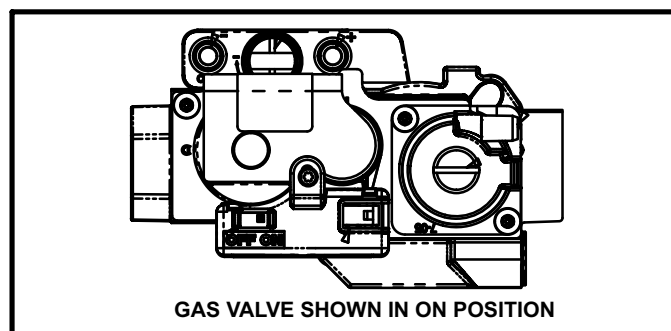

FIGURE 3
Operating the Gas Valve (Figure 3)
- 6 - Move switch on gas valve to **OFF**. See figure 3.
- 8 - Move switch on gas valve to **ON**. See figure 3.